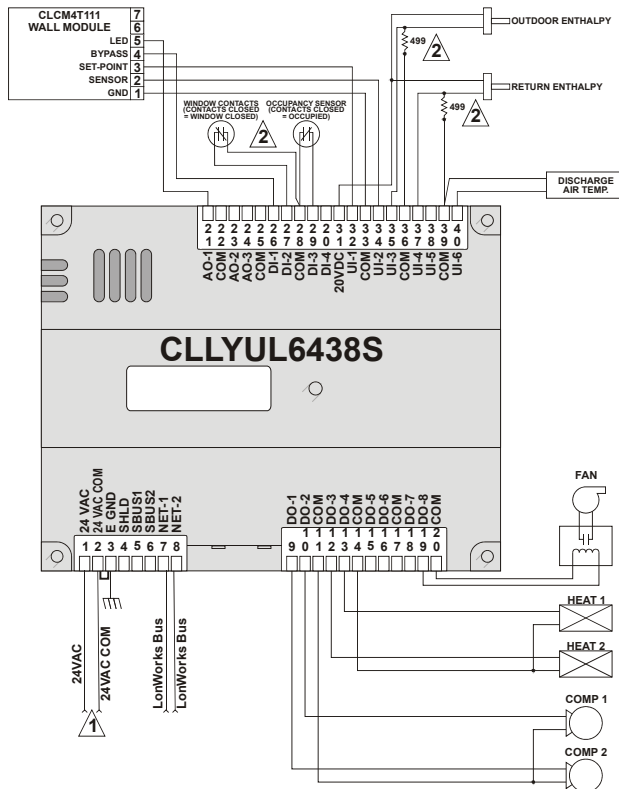
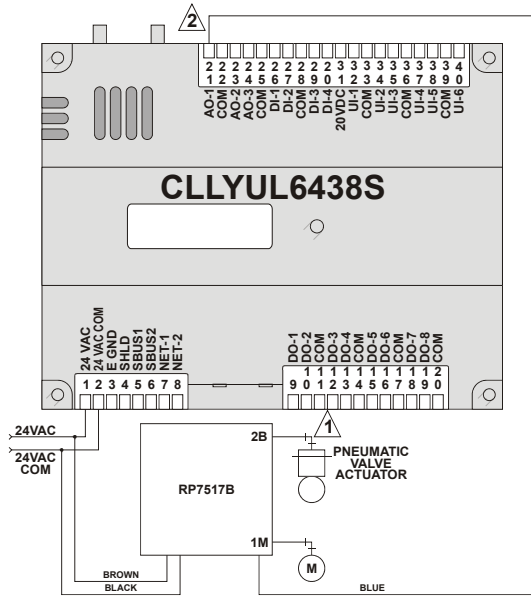

Fig. 19. Controller wiring diagram (CLLYUL6438S shown) with 4...20 mA enthalpy sensors and digital inputs
Fig. 21. Controller wiring diagram (CLLYUL6438S shown) for RP7517B pneumatic transducer
Fig. 19 through Fig. 21 illustrate controller wiring for the following configurations.
- Typical controller wiring for 4...20 mA enthalpy sensors and digital inputs (see Fig. 19).
- Typical controller wiring for a pneumatic transducer, model RP7517B (see Fig. 21).